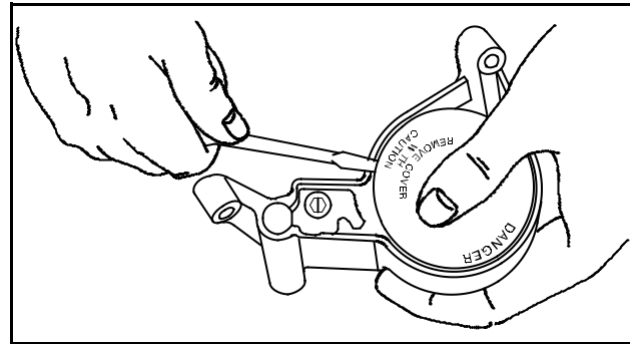

Fig. 51
4. Note the warning on the plastic cover, then use a screwdriver as shown in Fig. 51 to remove the cover.